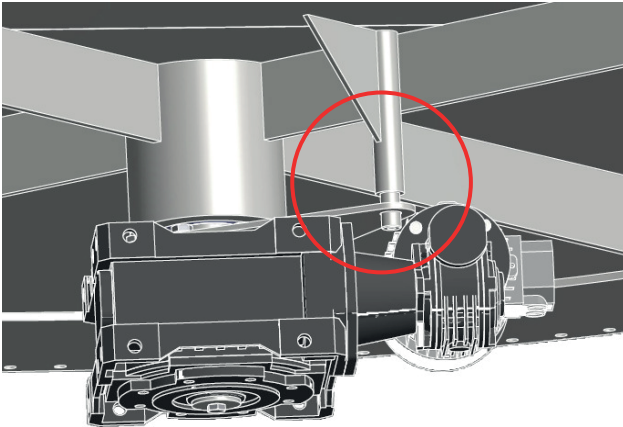

Fig. 04
Fit the torque flange (20) onto the motor (21) using the designated bolts (19). The motor flange must be positioned so that the pawl on the scraper base slots into place. The pawl prevents the motor from rotating in operation – see Fig. 04 (on next page).
Fit the torque flange (16) onto the motor (18) using the designated bolts (17). The motor flange must be positioned so that the pawl on the scraper base slots into place preventing the motor from rotating in operation – see Fig. 04. Finally, secure the motor/axle structure with a disc (19) and bolt (20). Tighten disc and bolt against the axle.